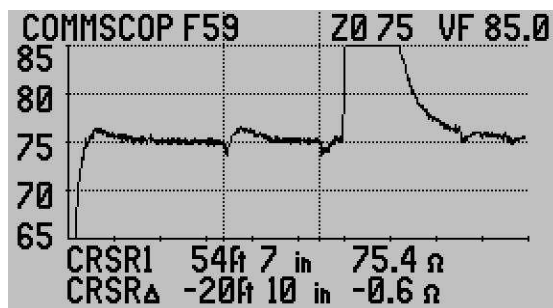

Figure 2-6B
**ALL FAULTS** – TDR presents a reduced Z Scale trace with dribble up removed to maintain a flat trace at  $Z_0$ . By eliminating the dribble up and reducing the Z Scale small faults of any kind can be more easily identified. See figure 2-6B
In figure 2-6B there are two small faults. The first fault is marked by Cursor 2 at about 34ft is a worn barrel connector and the second marked by Cursor 1 is a kink in the cable. Both could be service affecting at higher frequencies.